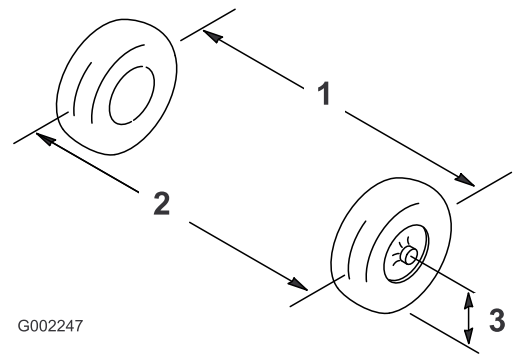

Figure 102
2. Measure the distance between of the front tires at the axle height at the front and rear of the front tires (Figure 102).